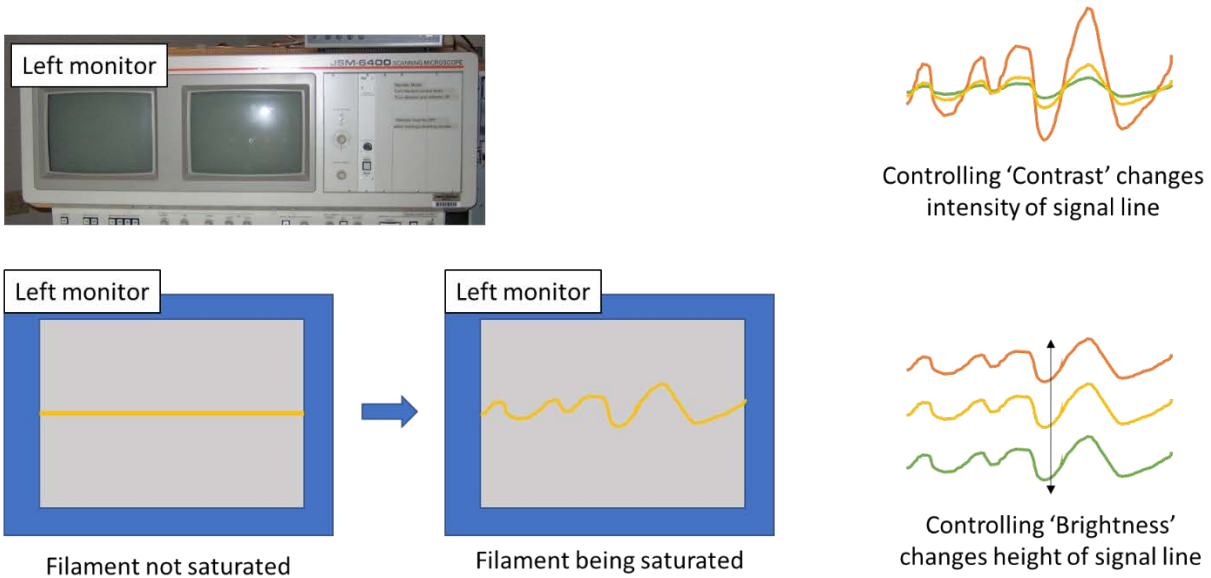

Figure 6 Monitoring filament saturation
- Locate line on the center of monitor by adjusting brightness and contrast knobs. You will see the line on the left monitor by controlling contrast and brightness, as shown in Figure 6. It is necessary to turn off room light completely.